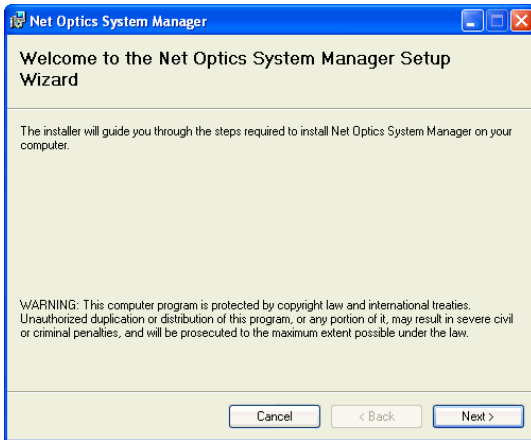

Figure 21: Welcome Dialog Box
- After reading the agreement, select **I Agree** and click **Next** to install System Manager. The Welcome dialog box appears as shown in Figure 21.